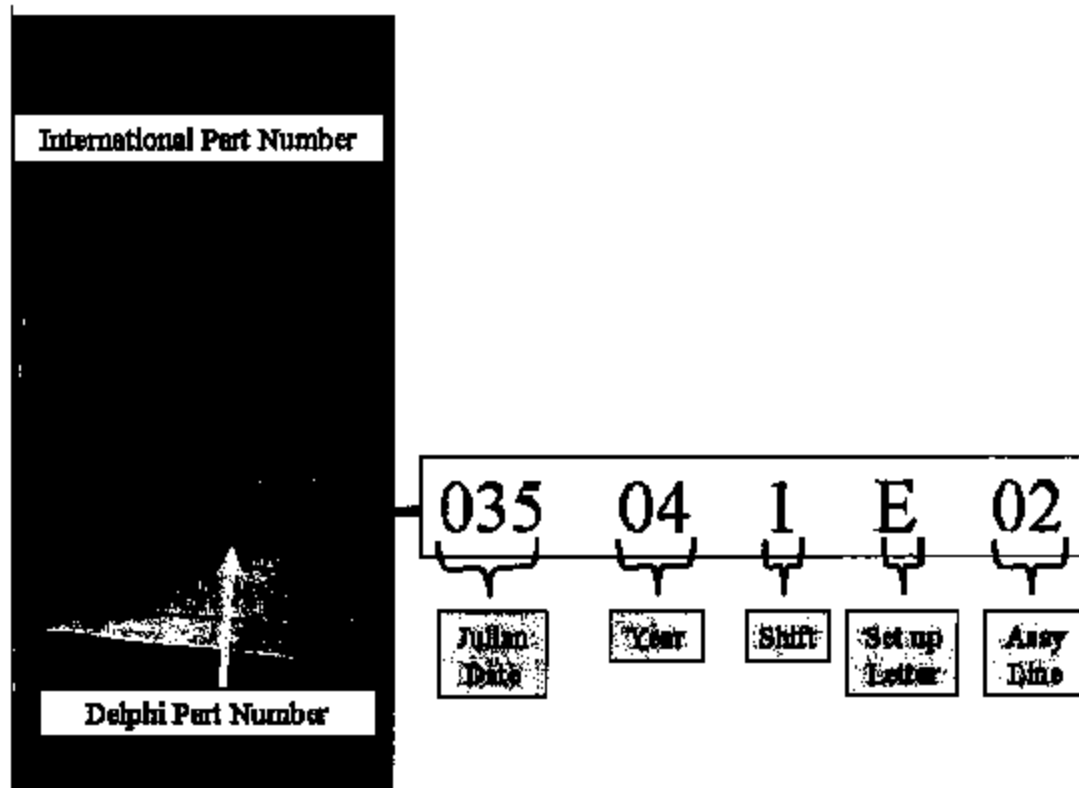

Figure 1
1. To determine which seat belts are to be replaced, refer to Figure 1.
4. Locate the date of manufacture of the latch. "MFD.DATE," in Figure 1.
- The first three (3) digits, the JULIAN DATE, is the number day of the year, for example January 31 would be represented as, "031," while February 1 would be represented as, "032," on up to December 31 which would be, "365." *The example in Figure 1 corresponds to February 3.*
- The next two (2) digits represent the year. *The example in Figure 1 corresponds to 2004. All suspect belts were manufactured in 2004.*